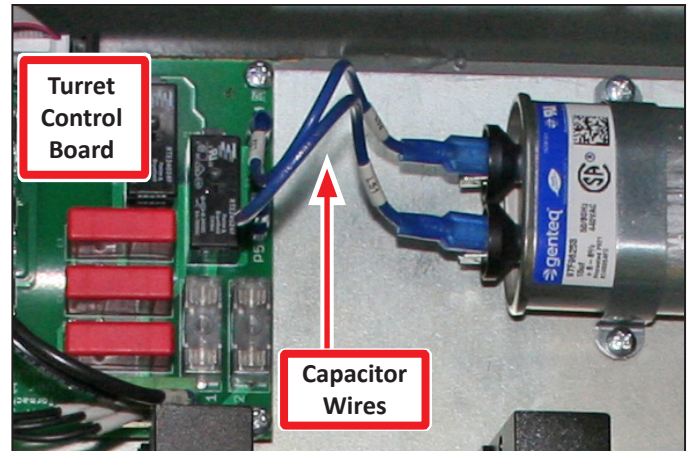

Figure 16
3. Connect wires **L51** and **L52** between Capacitor terminals and terminals **P4/P5** on the Turret Control Board as shown in **Figure 16**.